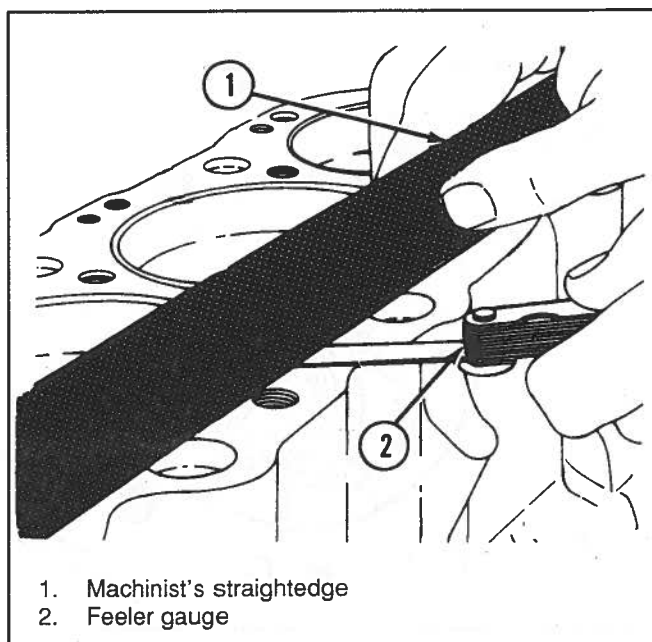

Figure 8-107. Checking Engine-Block Head-Gasket Deck For Flatness
1. Installing intermediate and center bearings (see Figure 8-107 for reference):
- a. Measure cylinder-bore diameter with a telescope gauge 2-1/2 in. (64 mm) from top of cylinder bore (Figure 8-107).